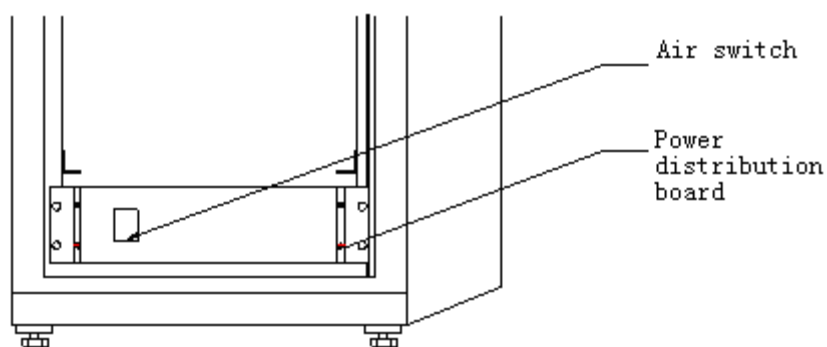

Figure 2-12 Power distribution board
(2) Connect DC+24V power cable's one end to the air switch at the cabinet's bottom, the red is connected to the positive pole, and the blue is connected to the negative pole. Connect the other end to DC power cabinet's output terminal correspondingly, the red is connected to the positive pole (the working ground), and the blue is connected to the negative pole. The greenish yellow's one end is connected to the pooling current bar of the base station cabinet, and the other end is connected to the protection grounding bus bar in the equipment room, as shown in Figure 2-12